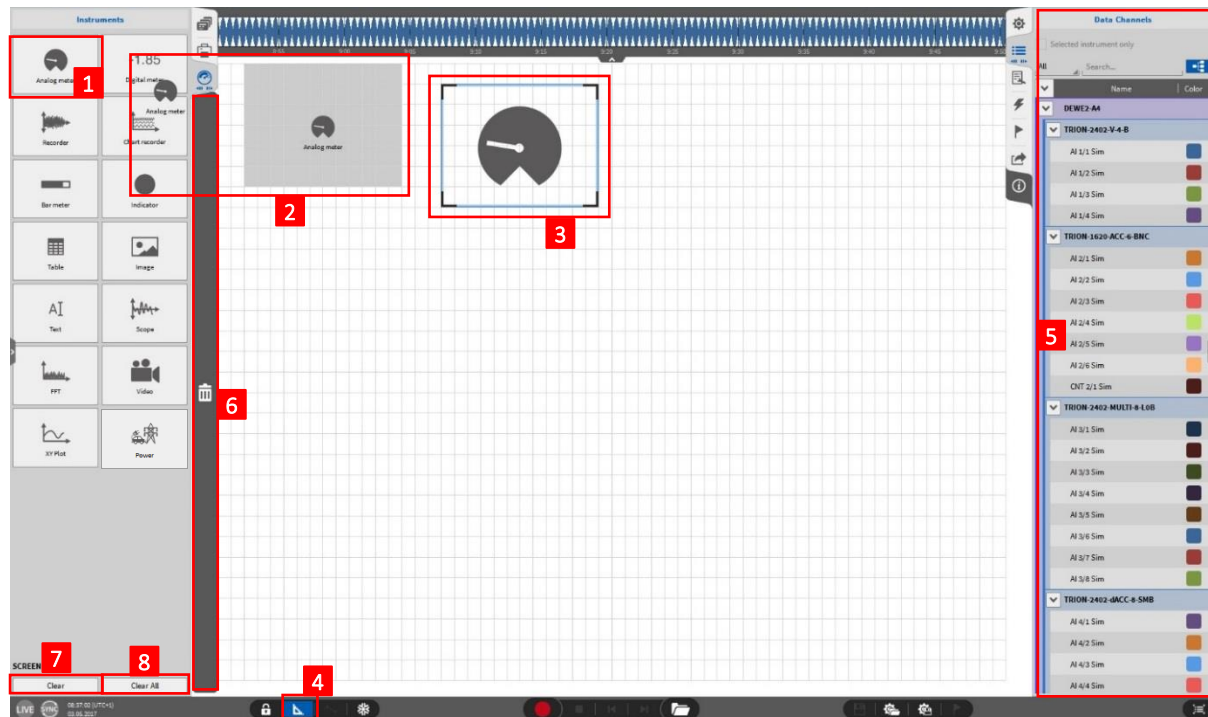

Figure 6-1: Adding Instruments to the measurement screen
To add an Instrument to the measurement screen, the user must click on the *Instruments* menu and open it while a measurement screen is open. Select the desired Instrument by clicking on it (①), move it to the measurement screen by keeping the mouse button pressed (②) and place it wherever you like by releasing the mouse button (③). In the example of Figure 6-1, an Analog meter is added to the measurement screen. The Instruments are aligned to the grey grid in the screen background. The *Design* mode is automatically activated when an Instrument is added to the measurement screen. The user can see that the *Design* mode is activated because of the blue background of the *Design* mode button (④) and because of the grey grid in the background of the measurement screen.